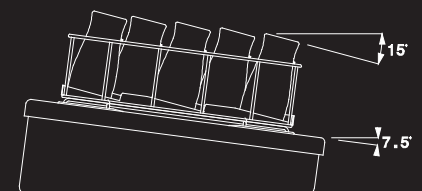

FIG 2
- ✓ Ensure the correct orientation of baskets. The glasses should be tilted forward to the front of The Airack (Fig 2).